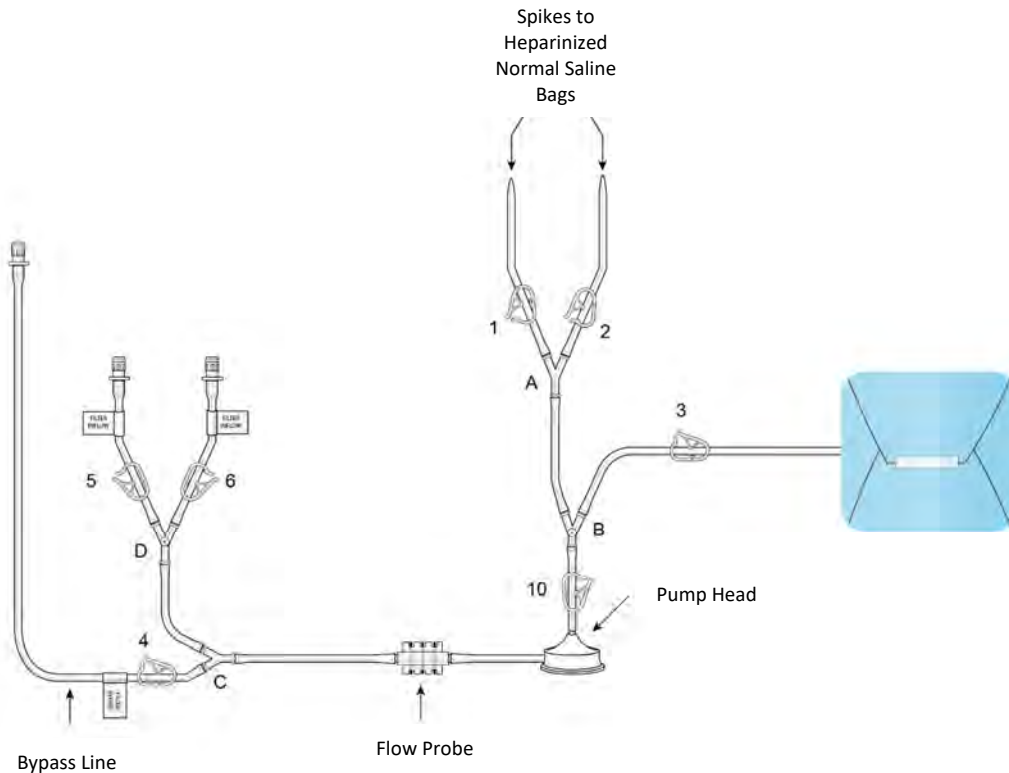

Figure 3
- Utilizing strict aseptic technique, heparinize nine (9) liters of 0.9% Sodium Chloride Injection (normal saline) by adding 2000 units of heparin per liter.
- Remove Hemofiltration (Chemofiltration) Dual Filter Cartridge from sterile pouch. Attach the filter to the intravenous pole using the built-in pole mount clamp, see Figure 3. Refer to "THIS END UP" label on filter faceplate, see Figure 4.